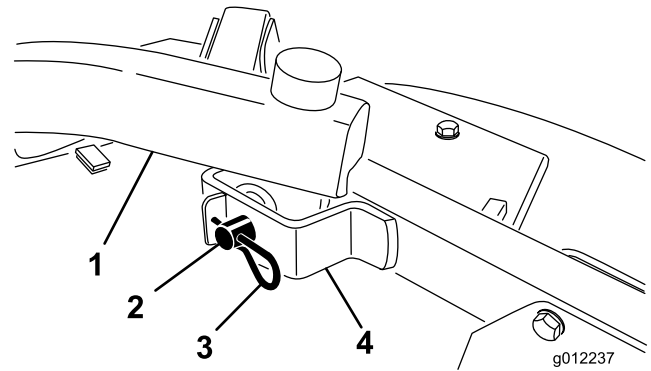

Figure 24
2. Remove the hair pin cotters and clevis pins securing the lift arms to the castor arm brackets (Figure 24).